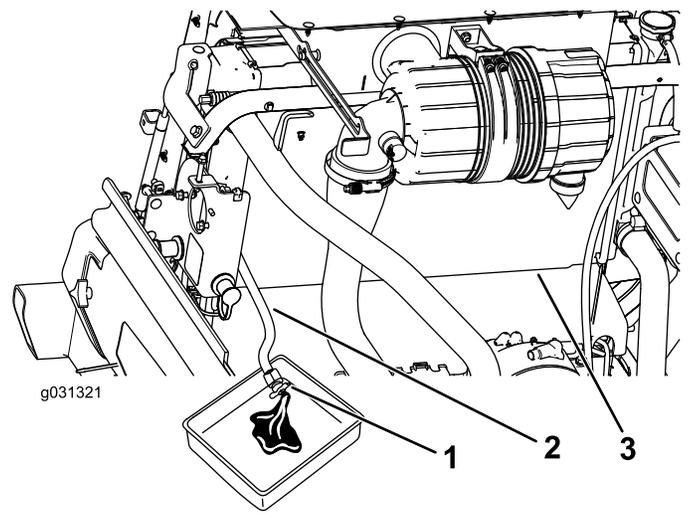

Figure 124
3. With the radiator-drain hose placed in a drain pan, open the drain valve on the radiator hose and drain the fluid into a drain pan (Figure 124).